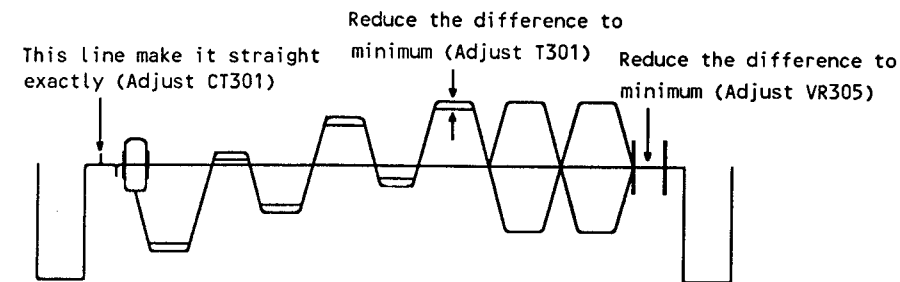

Fig.9
5. Adjust CT301 to obtain the waveform as in Fig.9.
6. Adjust VR305 to obtain the waveform as in Fig.9.
7. Adjust T301 to obtain the waveform as in Fig.9.